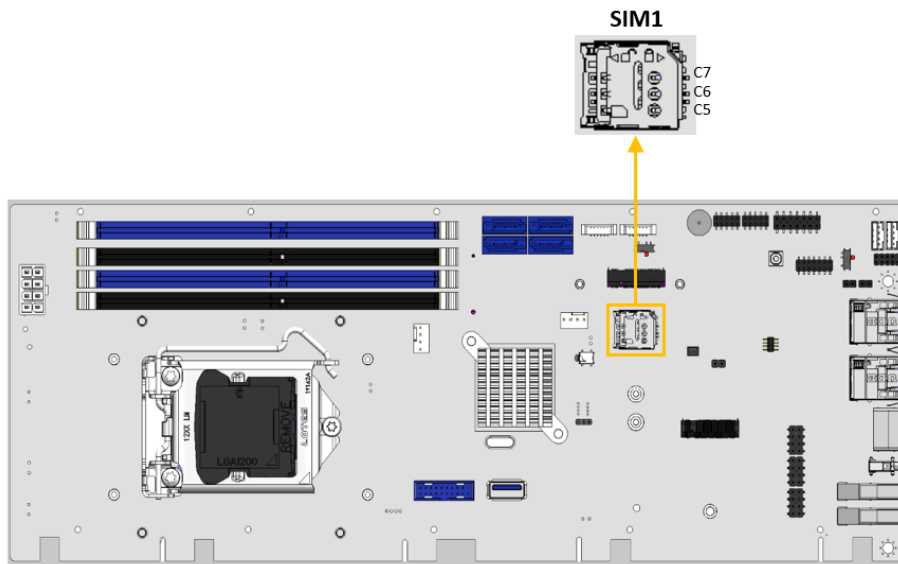

Figure 3-24: SIM Card Slot Connector Location
- CN Location:** See **Figure 3-24**